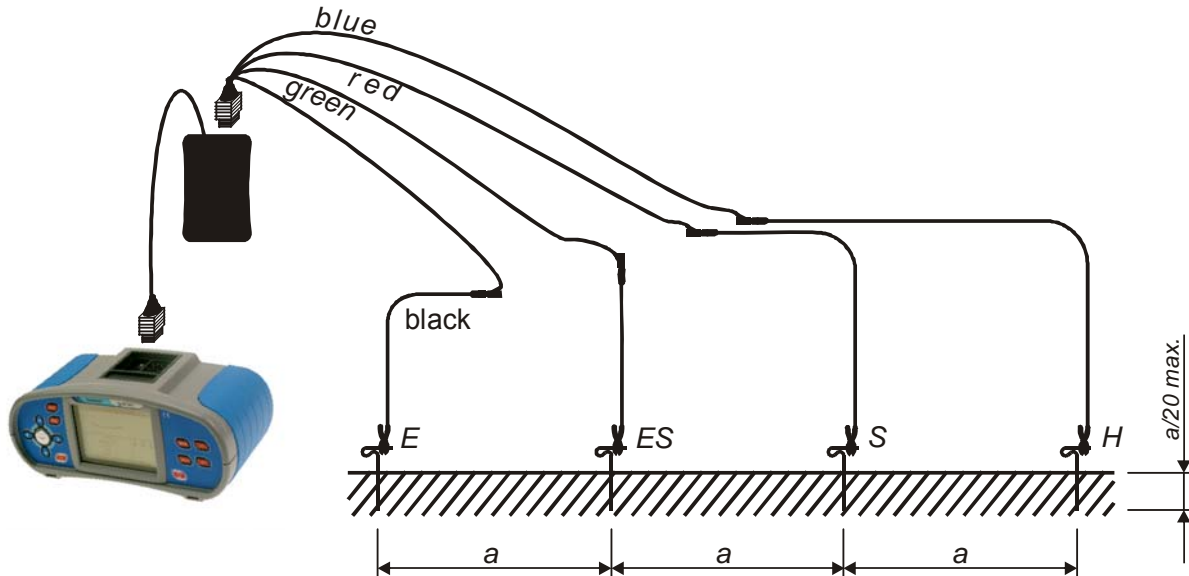

Figure 5.39: Specific earth resistance measurement with  $\rho$ -adapter
- ❑ Connect test leads of  **$\rho$ -adapter** to tested object (see figure 5.39)